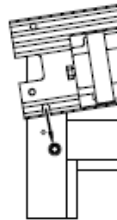

Figure 5
Install the operator onto one of the two support fasteners as shown in Figure 5 and rotate down to level. Match drill second fastener and secure the operator in place.
With cover in place match drill the holes into the bracket as shown in Figure 5 and install (2) thread cutting fasteners supplied in the package.